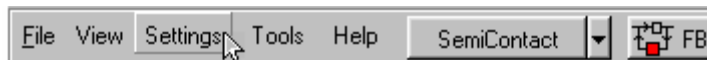

Fig. 2-10
1. Press the "Settings" button from the top menu bar (Fig. 2-10)